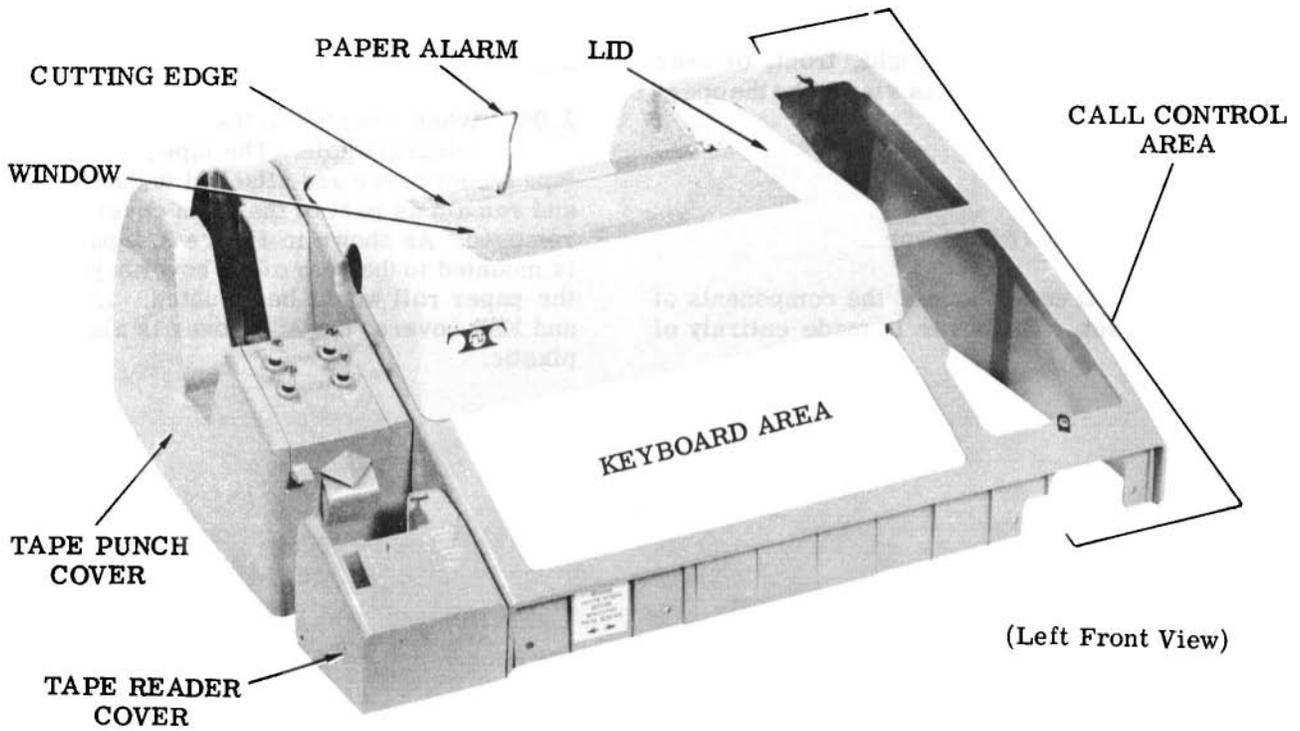

Figure 2 - Automatic Send-Receive (ASR) Cover
2.05 The ASR cover illustrated in Figure 2 is essentially the same as the KSR except that the covers for the punch and the reader are attached to the left.
2.06 When mounted on the set the cover is one integral whole. The tape punch cover and tape reader cover are attached to the main cover and remain as part of the main cover when it is removed. As shown in Figure 2, a paper alarm is mounted to the rear of the cover beyond where the paper roll would be mounted. Like the RO and KSR covers, the ASR cover is also gray and plastic.